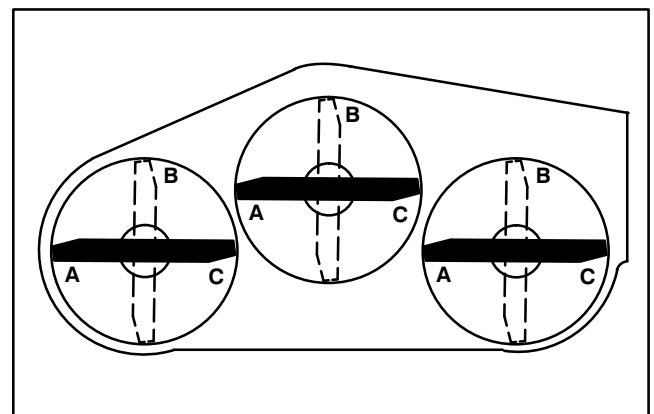
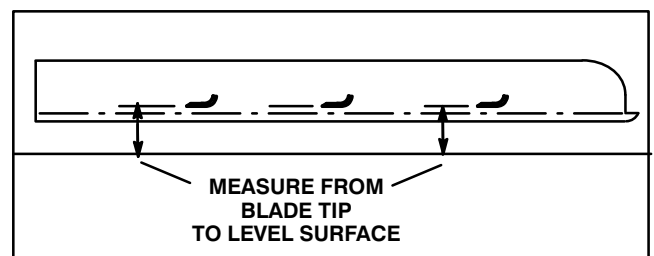

Figure 33
Figure 34
CORRECTING CUTTING UNIT MISMATCH (Fig. 33–34)
5. Position all three blades in the “A” position (Fig. 33) and measure from level surface to the bottom of the tip end of each blade (Fig. 34).
6. Note measurement attained at “A”, rotate blades to “B” position (Fig. 33), measure distance of all blades to level surface and note dimensions (Fig. 34).
7. Rotate blades to “C” position, measure and note distance measured (Fig. 33, 34).